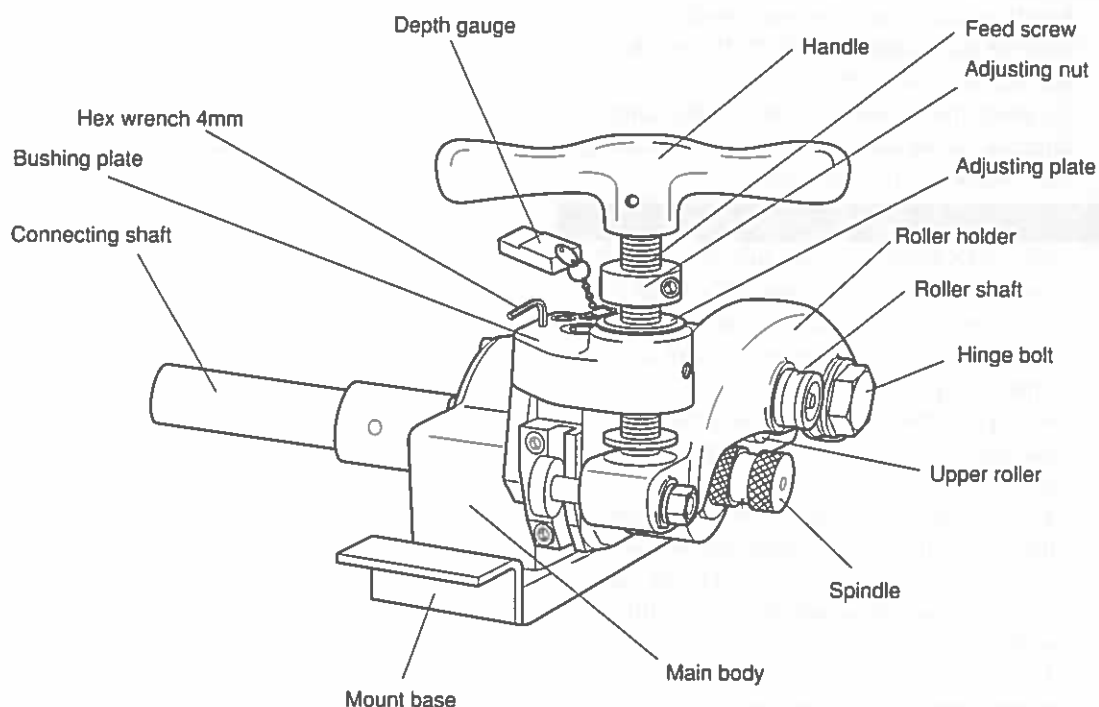

Fig.1
- 1) Use rollers that match the pipe size. (Refer to Fig.1, 5)